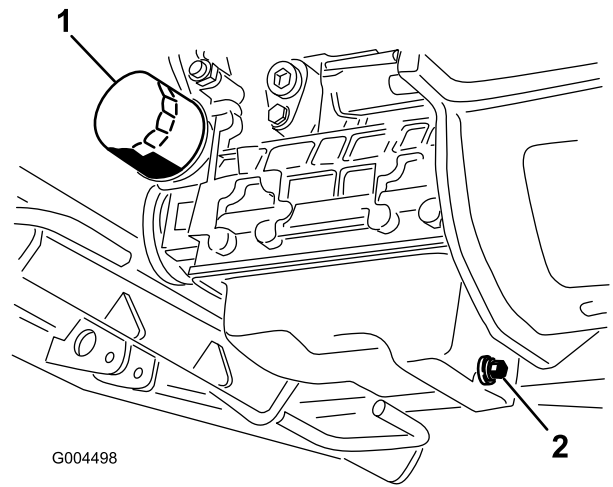

Figure 42
6. Remove and replace the oil filter (Figure 42).
3. Set a drain pan under the oil pan and in line with the drain plug (Figure 42).